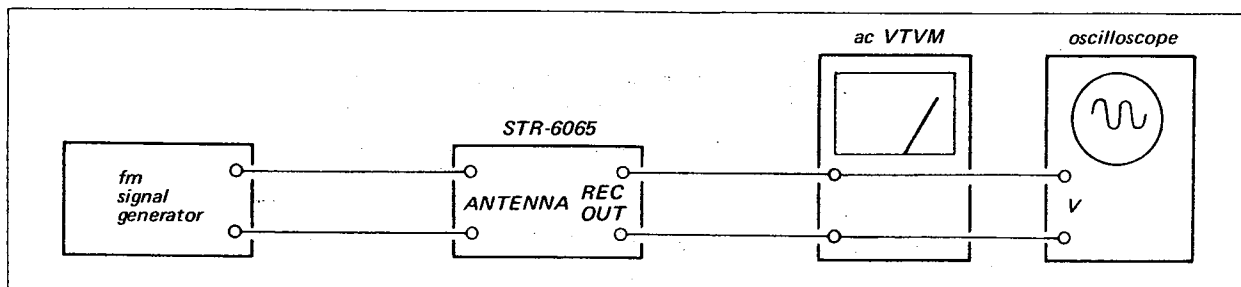

Fig. 3-3. Fm i-f, muting and front end alignment test setup
1. With the equipment connected as shown in Fig. 3-3, set the signal-generator's controls as follows:
- With the equipment connected as shown in Fig. 3-3, set the receiver's controls as follows:
2. Connect the equipment as shown in Fig. 3-3.